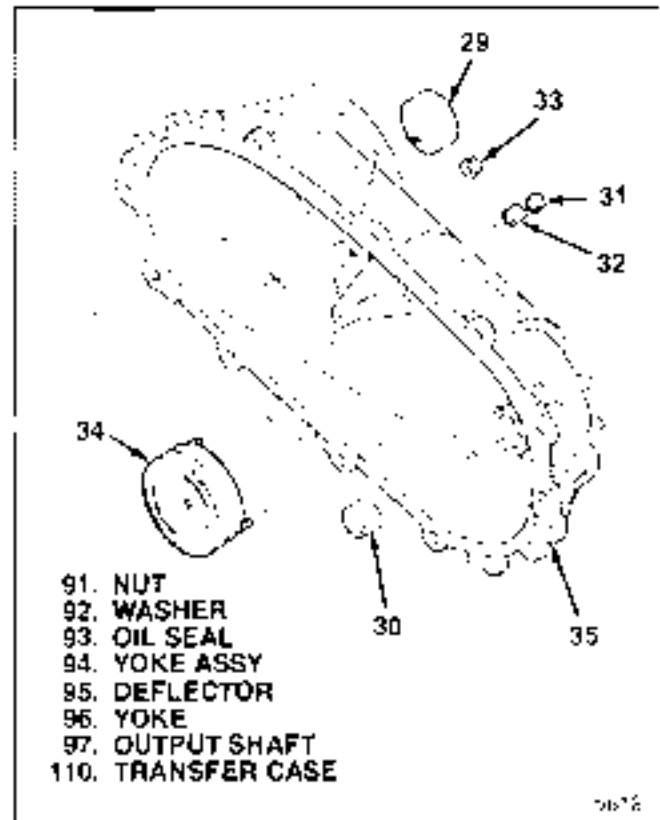
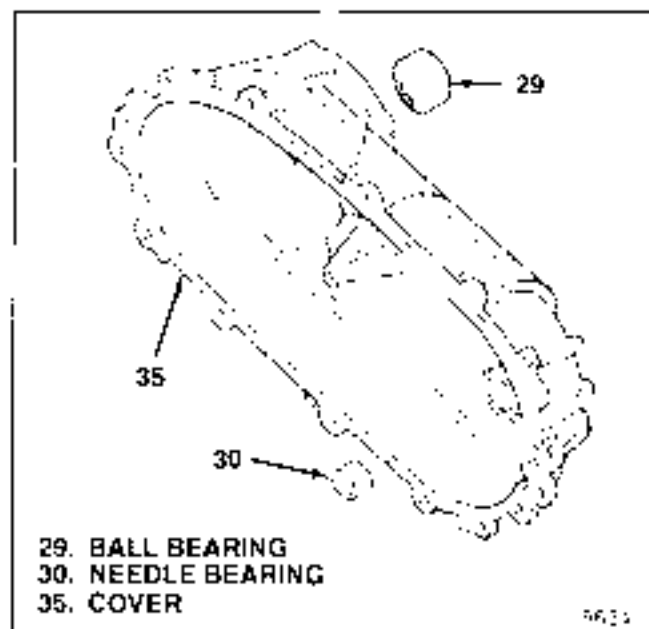
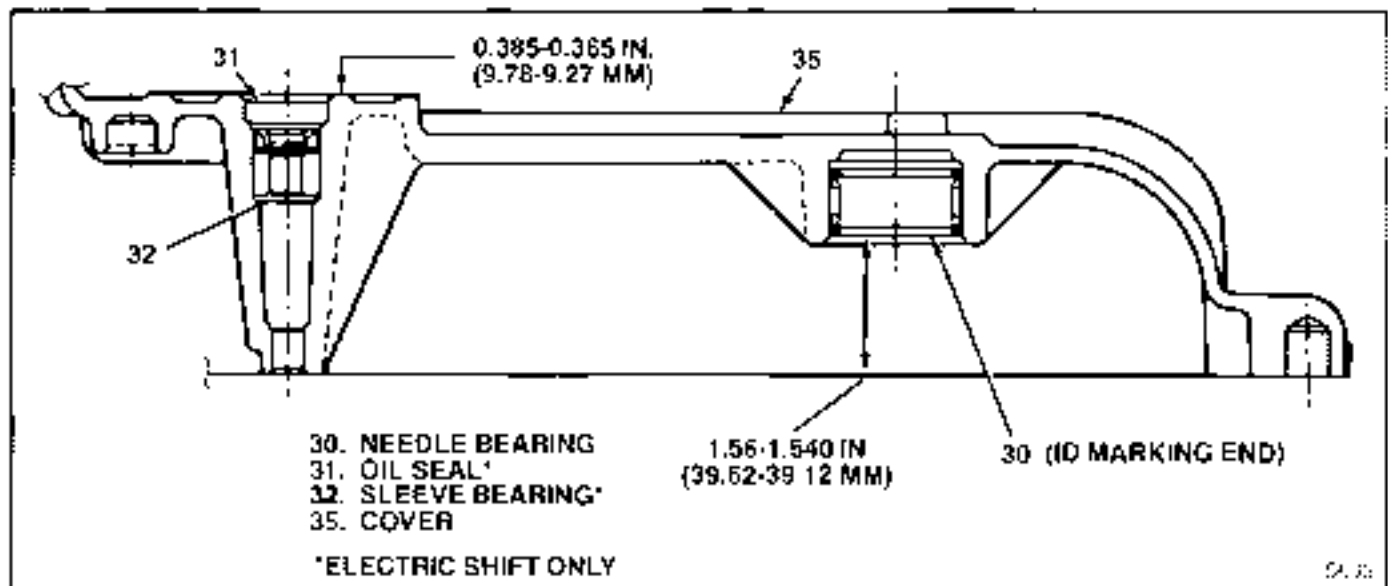

Figure 5-18. Cover Assembly (Electric Shift)
Figure 5-19. Cover Assembly (Mechanical Shift)
Figure 5-20. Cover Assembly Dimensions
**5-14. COVER ASSEMBLY.** Assemble parts into cover as follows (see figure 5-18 for electric shift, figure 5-19 for mechanical shift).
a. On electric shift units only, verify that four O-rings (one on wire and one each on three studs) are in place on clutch coil assembly (31). Install clutch coil assembly in inside of case cover, with electrical wire and studs extending through cover. Use care not to kink or trap electrical wire under clutch coil assembly. Attach with three nuts (33) and torque to 6-8 lb-ft (8.1-11.0 Nm).
b. On electric shift units only, press sleeve bearing (32) and oil seal (31) into cover to dimension shown in figure 5-20 using suitable drift.
c. Position cover (35) on bed of suitable press so that open face of cover is up and parallel with press bed.
d. Position end of needle bearing (30) with identification marking up and press into cover (35) to dimension shown in figure 5-20.
e. Press in ball bearing (29) to bottom in cover (35).